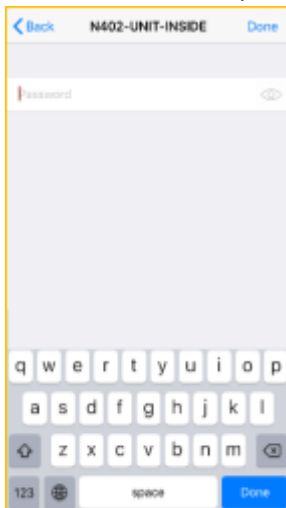

Figure 8
**10.2.4.1.** Select the name of your WiFi network from the list of available connections and enter the password (Fig. 8).